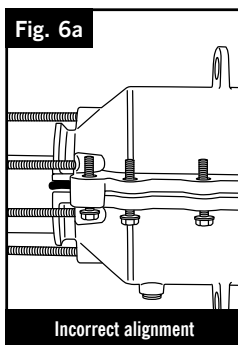

Fig. 6a
- 5) Place the other clamp shell on top of the leaking joint (use the lifting lug if required), align the BSP outlets to ensure that both are on the same side of the fitting (this is to ensure the seals are positioned correctly on both sides of the clamp); align the bolt holes on the clamps. (FIG 6a/6b)